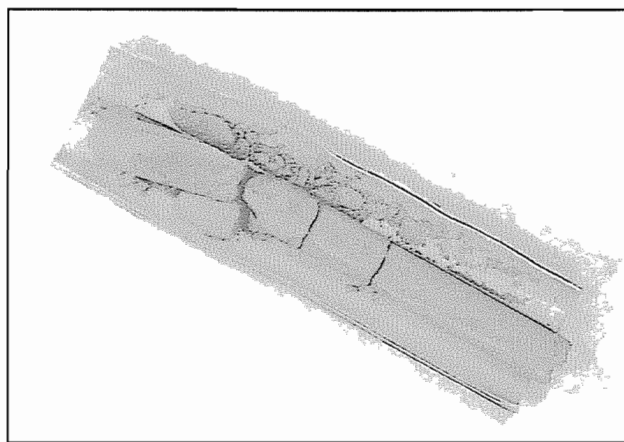

Figure 6-15. The cardboard tube is peeled away.
1. Each gopher gasser has a fuse (Figure 6-13). Pull out the fuses, and save them for the time delay burn rate test described on page 294. Tear off the paper wrappers, and with a single edge razor blade or an X-acto knife, slit the cardboard tubes lengthwise (Figure 6-14). Then peel away the layers of cardboard, and expose the dark, gray composition inside (Figure 6-15).